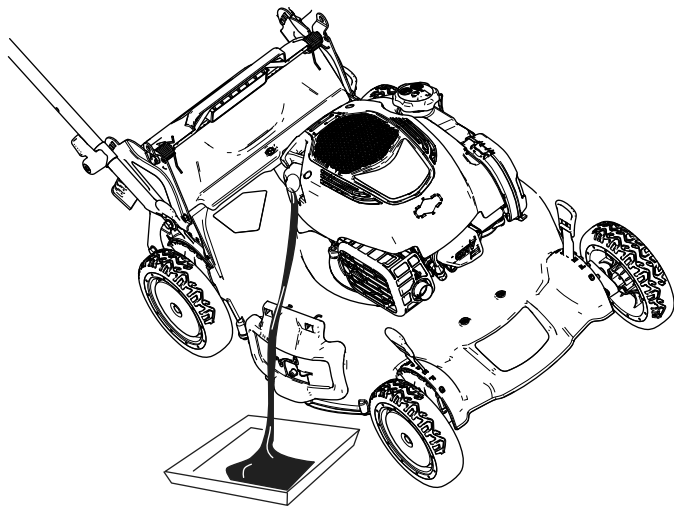

Figure 40
4. Tip the machine onto its side (so that the air filter is up) to drain the used oil from the oil-fill tube (Figure 40).